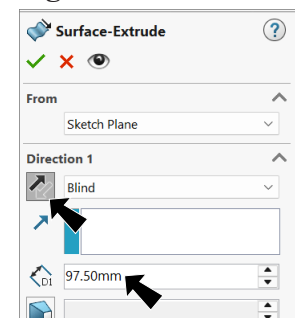

Fig. 41
Step 12. In the Surface-Extrude Property Manger: under Direction 1, **Fig. 41**